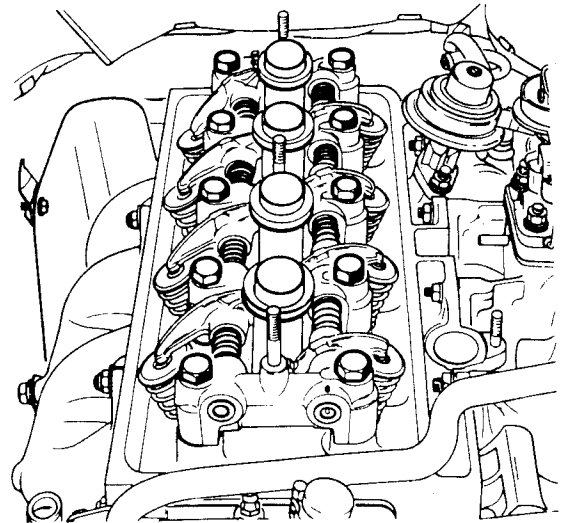
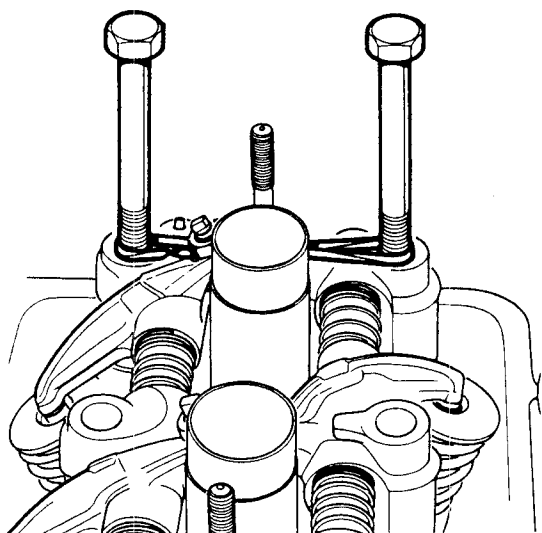

Fig.1.22 Combined rocker pillar and cylinder head bolts on a type 807 engine
Fig.1.23 Retaining the two end cylinder head bolts in the partly withdrawn position on a type 807 engine
- 5 Unscrew the rocker arm adjusting screws Fig.1.22 and lift out the pushrods, keeping them in strict order (photo). Unscrew and remove the cylinder head bolts working from the centre outwards a turn or two at a time. These bolts serve as combined rocker pillar and cylinder head bolts and once they are removed the rocker shaft assembly may be lifted away. The pair of bolts which retain the rear most rocker pillars cannot be fully withdrawn as they impinge upon the engine bulkhead. Use an elastic band to support them as shown in Fig.1.23 during removal (forward) of the rocker shaft assembly.